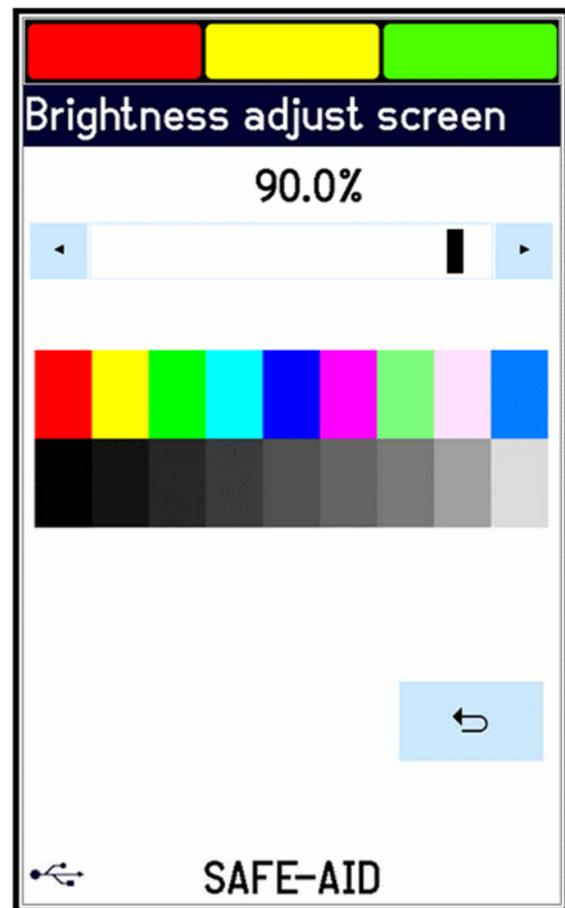

Figure 13
2. Press the  and the Brightness adjust screen (figure 13) will be displayed. Use the slider bar to adjust the screen to the required brightness.